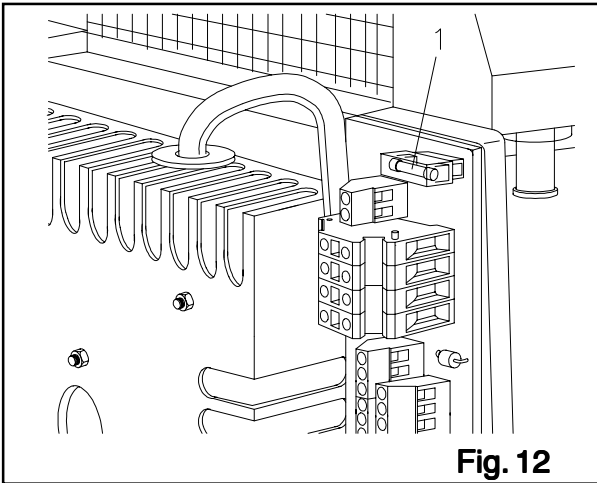

Fig. 12
-Verify the continuity at its terminals (Fig. 12 Ref.1).
- Disconnect the water hoses (Fig. 12 Ref. 1/2).